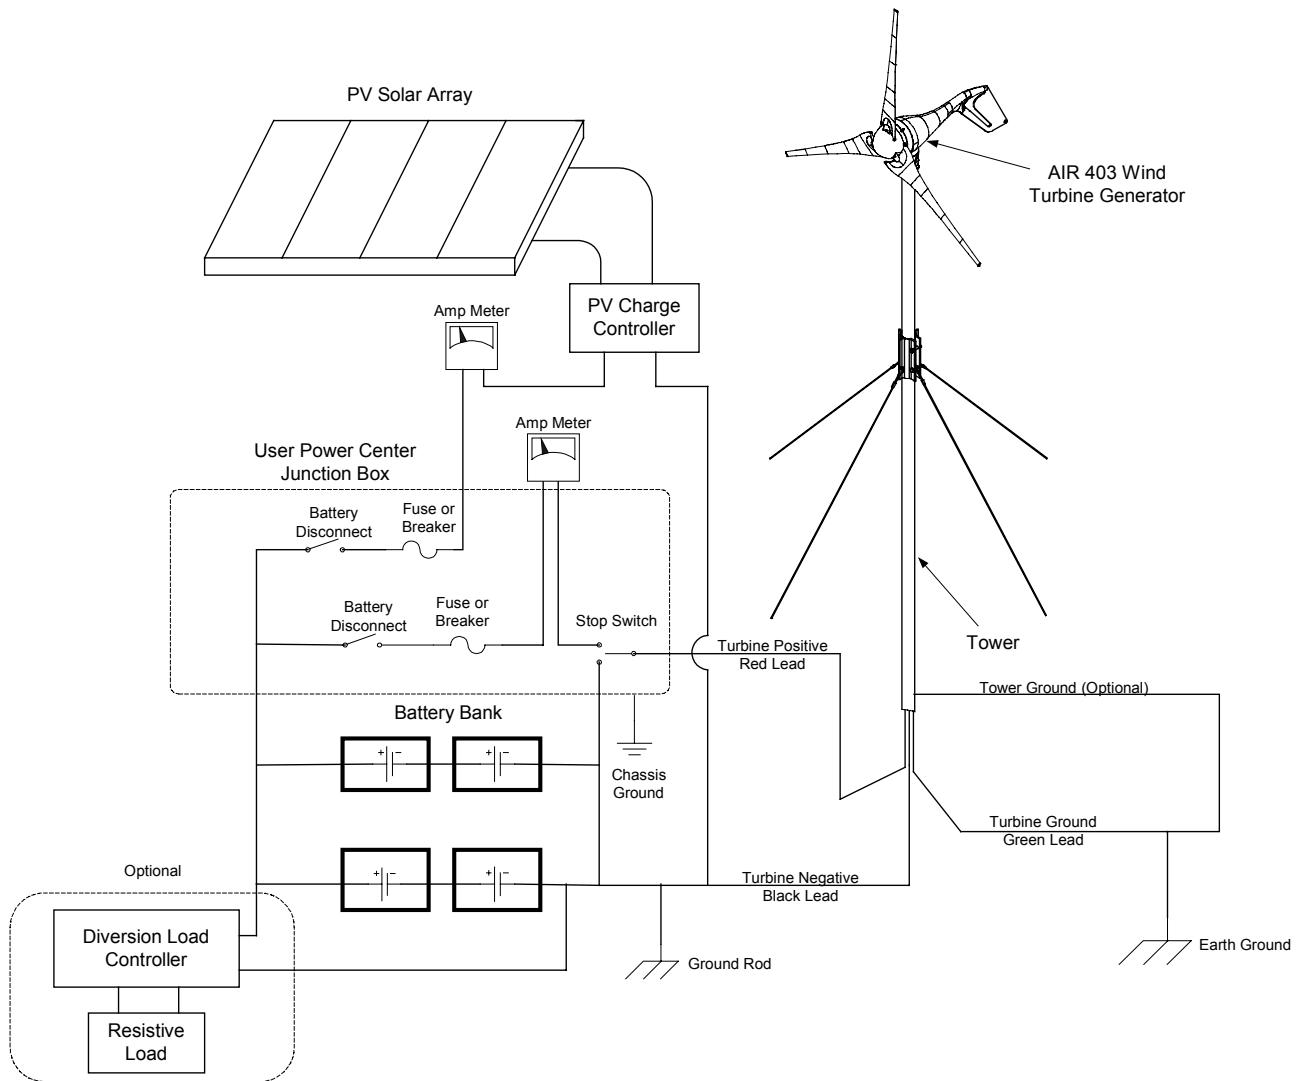

Figure 4
- 12) Run all wires from the turbine to the battery (do not connect wires to the battery). Be sure to crimp and solder the connections using the appropriate sized connectors. If you plan to connect an amp meter into your system, see Figure 4, on page 14.